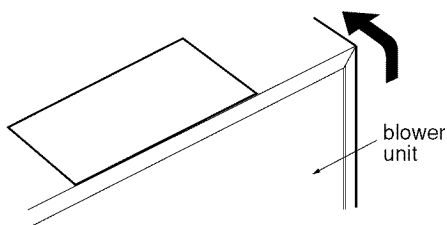

Figure 17
3. Rotate blower unit 90° so that the exhaust ports face the front of the cabinet. See Figure 17.